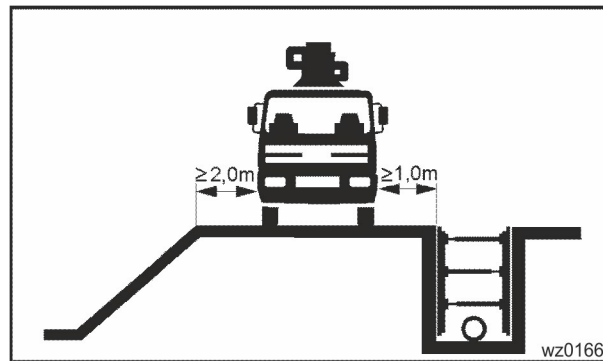

Fig. 26 Distances from excavation pits (example)
- Maintain the prescribed safety distance between the machine and excavation pits (Fig. 26 Distances from excavation pits (example))